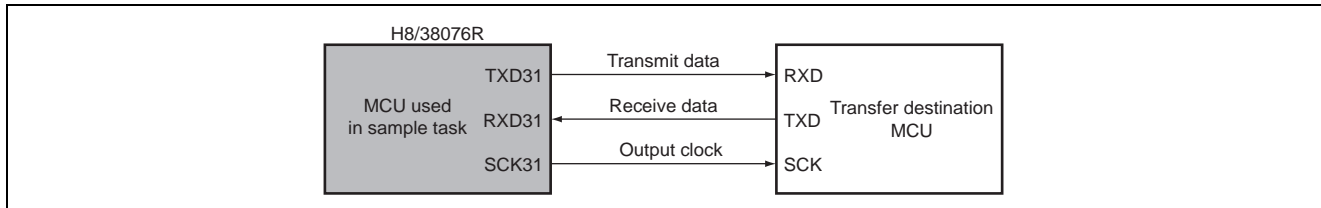

Figure 1 Simultaneous Serial Data Transmission and Reception in the Clock-Synchronous Mode
- Figure 1 shows a connection diagram for serial data transmission and reception in the clock-synchronous mode.